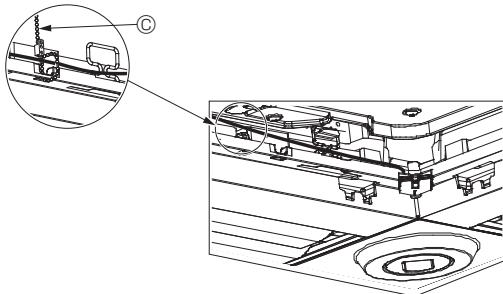

Fig. 6-13
- Secure the i-See sensor and signal receiver wires to the panel with the fastener as shown in the diagram so that there is no slack in the wires, and then cut off the excess end of the fastener. (Fig. 6-13)
- If the position of the i-See sensor was changed from the “○” position (E) to the “□” position (F), change the switch settings. (Refer to page 11.)